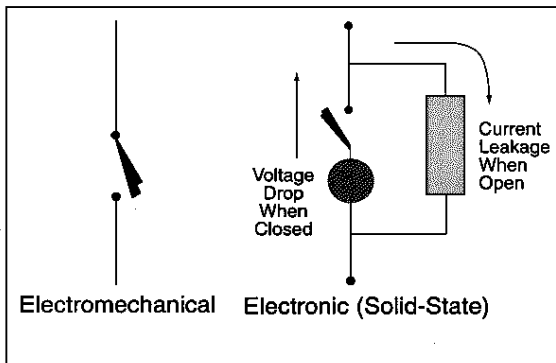

FIGURE 1. The two types of sensor output technology.
Electromechanical: This is a switch which physically opens and closes a circuit (Figure 1). There is no voltage required to power the relay — that’s what we mean by “dry contact.” There is no voltage across the switch when the circuit is closed. Its physical position determines the circuit’s status. Electromechanical switches are either normally open (NO) or normally closed (NC). Examples of electromechanical switches include contacts, relays, reed relays, push-button operators, and limit switches.